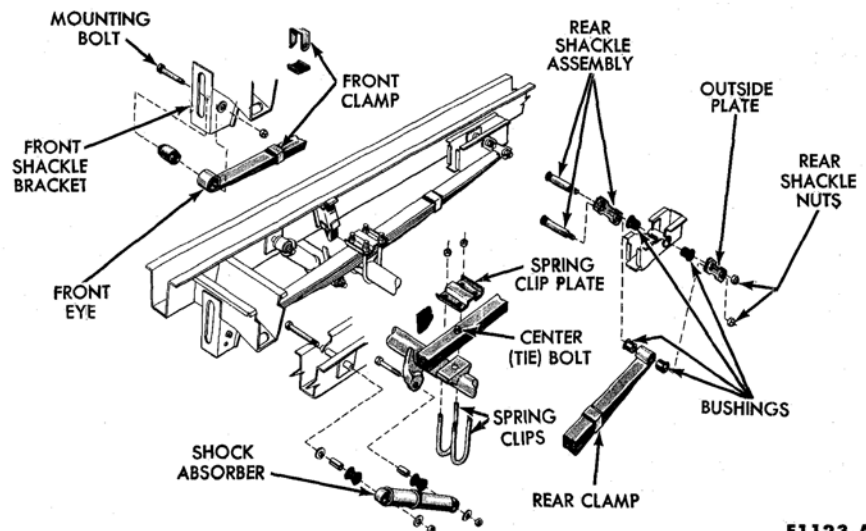

FIG. 7—Rear Spring Installation
3. Remove the two spring clips (U-bolts) and the spring clip plate (Fig. 7).
the rear shackle bracket, and the lower stud through the rear eye of the spring (Fig. 7).